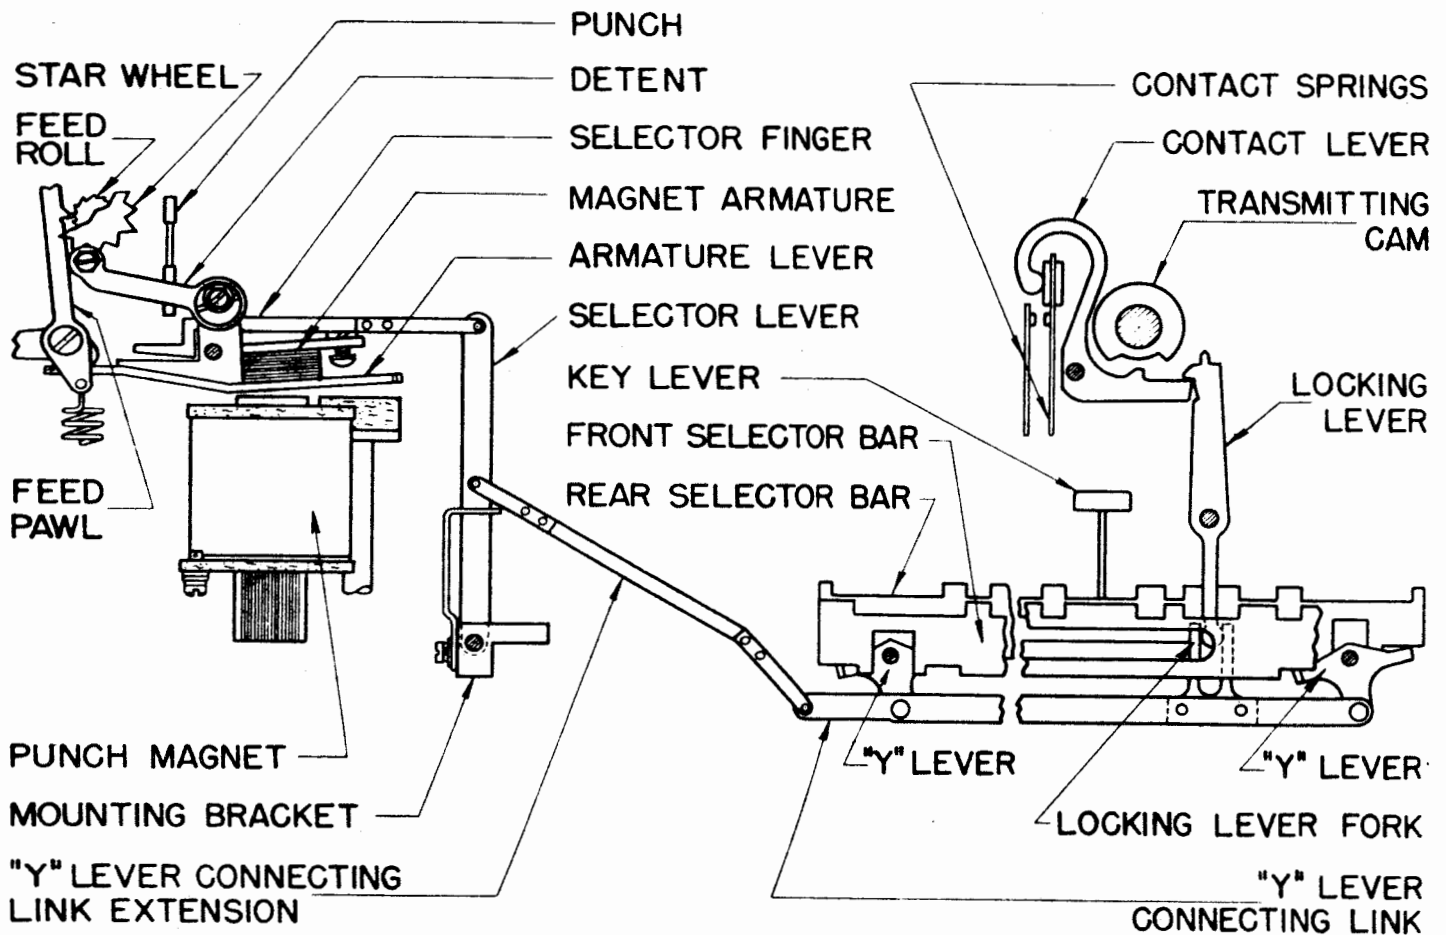

Figure 6
Note: The following three requirements, 2.07, 2.08, and 2.09, need be checked only when a new selector-bar assembly is being installed or when the number of selector-bar-assembly bracket shims has been changed. Remove right and left slide plates, disconnect Y-lever connecting link extensions from Y-lever connecting links, and remove selector-bar-assembly bracket. Hold Y-lever connecting link extensions in position by passing a piece of string under extension and attaching each end to the perforator extension casting. See Figures 6 and 7 for identification of parts.
2.08 Y-lever Connecting Links of perforator-transmitters having counter-control contacts mounted on the perforator units should have a travel (longitudinal movement) of not less than 5/32 inch when the CAR RET keylever is depressed alternately with the FIGS, LTRS, and LINE FEED keylevers in turn. Gauge by eye. See Figure 6.